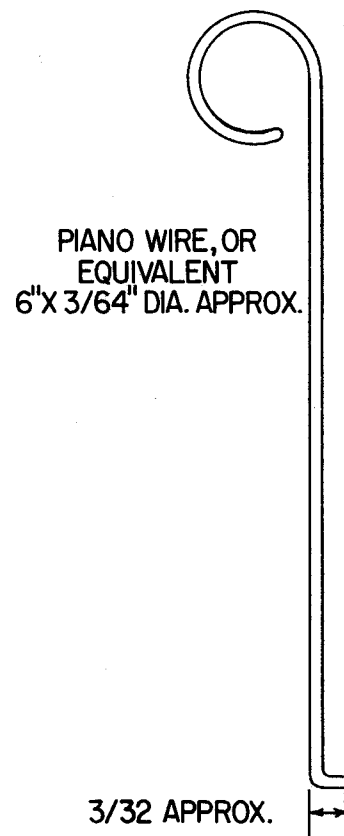

Figure 6. Hooked Tool for Pulling Valve
6. Fabricate a small, hooked tool as shown in figure 6 and insert it into the gap between the valve keys and